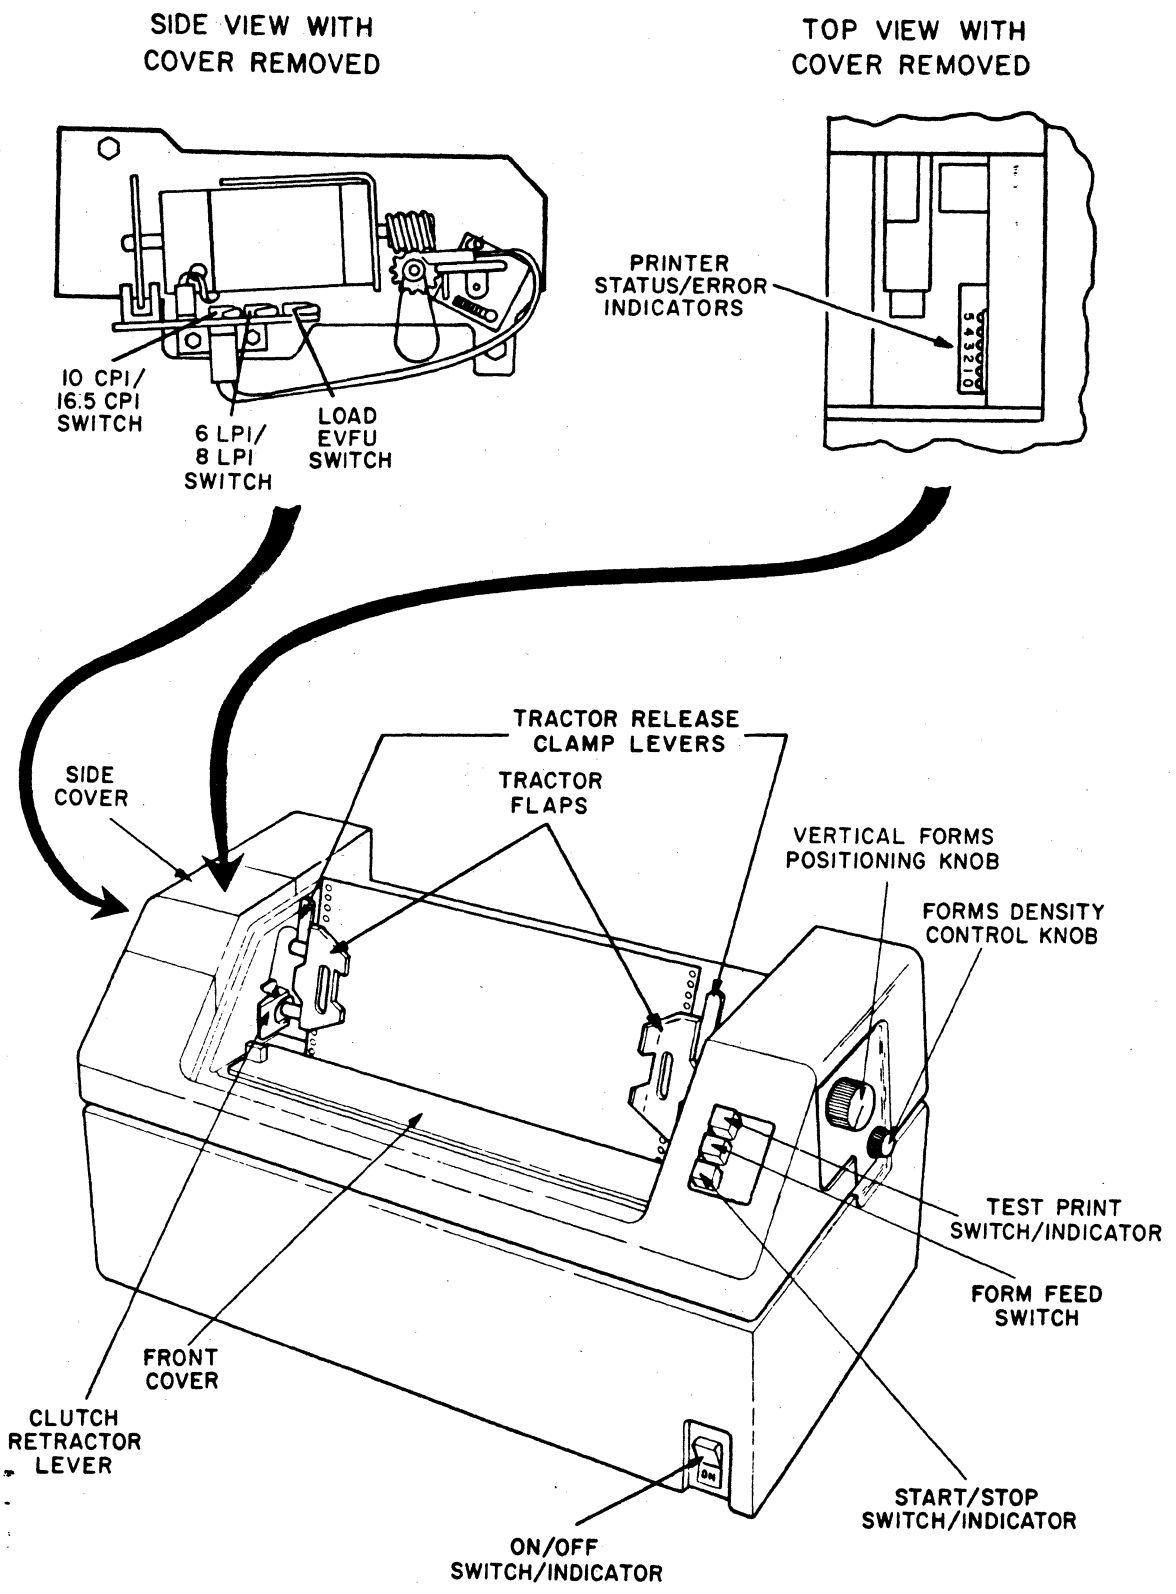

Figure 70-1. Impact Printer Controls and Indicators
These six indicators (see figure 70-1), accessible via the side cover, display a code that informs the operator of printer operating status and/or of a printer error condition. A definition of these codes is provided in the six Printer Status/Error indicators, located under the side cover, display a code that shows:
- 5) Lift side cover (figure 70-1) from printer, and set the 6/8 LPI switch to 6 LPI.
At least two full pages of forms will move through tractors in the following step. To prevent this paper loss, press clutch retractor lever (figure 70-1) during loading.
- 8) Using clutch retractor lever and vertical forms positioning knob (figure 70-1), align paper so printhead is at a top of form.
- 3) Insert top form sheet in rear forms slot and under paper tension weights. Paper tension weights can be raised and locked in up position during forms loading. Feed forms into slot from rear until leading edge of forms is visible at front of printer. If forms are multiple-part forms, it may be necessary to increase the gap between platen and printhead by turning forms density control knob (figure 70-1) fully clockwise so forms pass readily through printer.
- 5) Open left tractor flap (figure 70-1) and position paper form feed holes on drive pins of tractor. Close tractor slide flap.